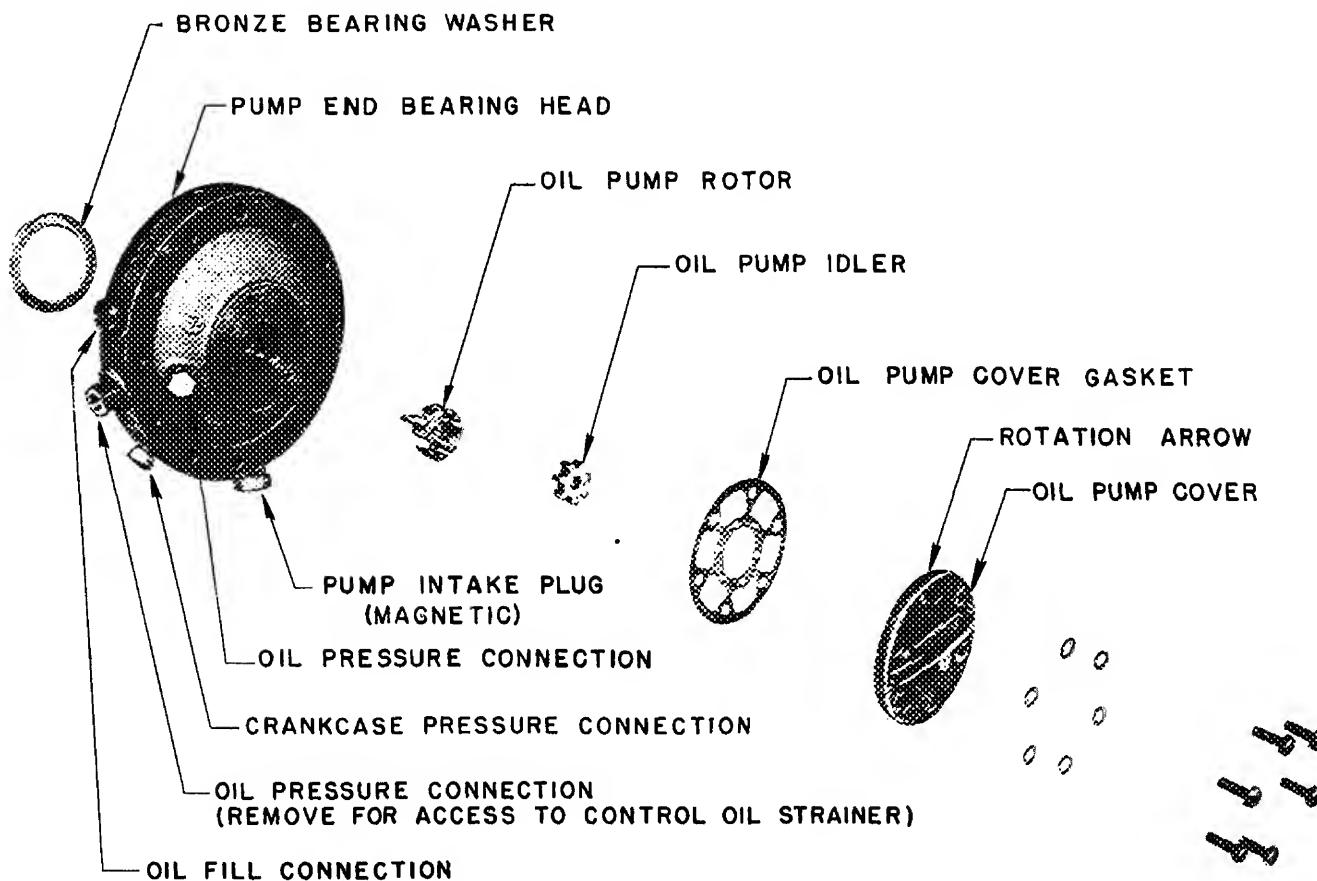

FIG. 10 - EXPLODED VIEW OF 5F OIL PUMP
The oil pump on all 5 line compressors is located in the pump end bearing head and is a gear type positive displacement pump. (See Fig. 10.) Current production compressors use a manually reversible pump while earlier production compressors used automatic reversing pumps.
**CAUTION:** If the gasket between the oil pump cover and oil pump is damaged replace only with correct gasket and check oil pump end clearance before operating compressor. To check for proper clearance of the oil pump bushing, grasp the tang of the oil pump shaft with a pair of pliers and try to move it in or out. If any end play can be felt, the bushing is not properly positioned and there is too much clearance. If no axial movement is felt and if the oil pump shaft rotates freely without binding, the position of the oil pump bushing is correct. Always check oil pressure on any pressure lubricated compressor when putting equipment into operation. (See Fig. 10.)